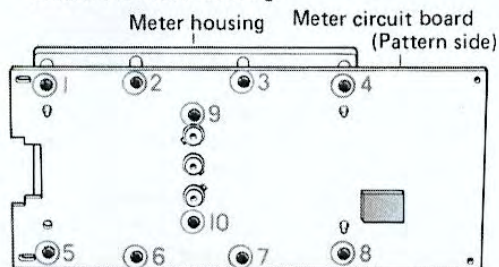

Fig. 6
- b. Remove the plastic rivets ① through ⑧ in Fig. 6 from the back side of the meter circuit board and remove the meter housing.
- d. Remove plastic rivets ⑨ and ⑩ in Fig. 6 and re-remove the lamp reflector.